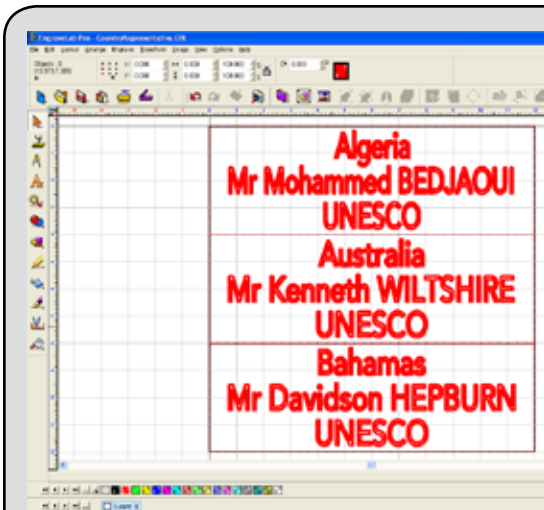

Fig. 52 - After badges have been created, the view will return to the EngraveLab workspace, where text substitution for each badge has occurred.
1. When the badges have been completed, the workspace will display the first page of badges (Fig. 52).